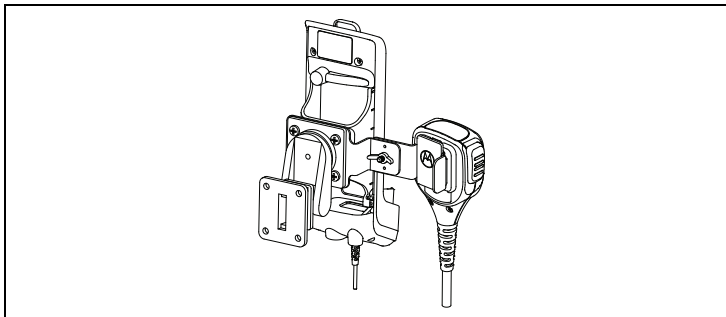

Figure 2: Clipping the RSM on the Bracket
8. RSM bracket allows user to clip on the RSM as shown in Figure 2 below.